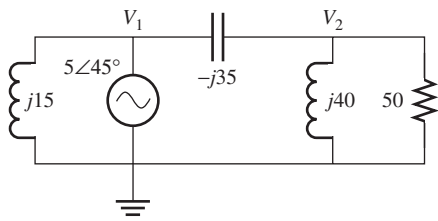

FIGURE P6.36 Circuit for Problem 6.36.
6.36 (A)* Find V_2 in Figure P6.36 using nodal analysis.